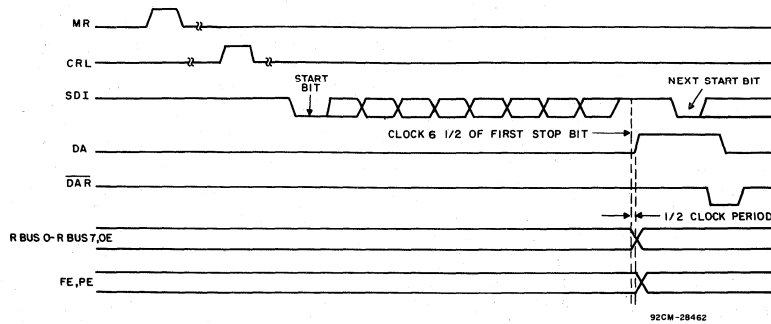

Fig. 6 - Receiver timing diagram.
receiver clock periods later. When a valid start bit has been verified, the following data bits, parity bit (if programmed), and stop bit(s) are shifted into the Receiver Shift Register at clock pulse 6 1/2 in each bit time. If programmed, the parity bit is checked, and receipt of a valid stop bit is verified. On count 6 1/2 of the first stop bit, the received data is loaded into the Receiver Holding Register. If the word length is less than 8 bits, zeros (low output voltage level) are loaded into the unused left-most bits. If DATA AVAILABLE (DA) has not been reset by the time the Receiver Holding Register is loaded, the OVERRUN ERROR (OE) signal is raised. One-half clock period later, the PARITY ERROR (PE) and FRAMING ERROR (FE) signals become valid for the character in the Receiver Holding Register. The DA signal is also raised at this time. The 3-state output drivers for DA, OE, PE and FE are enabled when STATUS FLAG DISCONNECT (SFD) is low. When RECEIVER REGISTER DISCONNECT (RRD) goes low, the receiver bus 3-state output drivers are enabled and data is available at the RECEIVER BUS (R BUS 0-R BUS 7) outputs. Applying a negative pulse to the DATA AVAILABLE RESET (DAR) resets DA. The preceding sequence of operation is repeated for each serial character received. A receiver timing diagram is shown in Fig. 6.